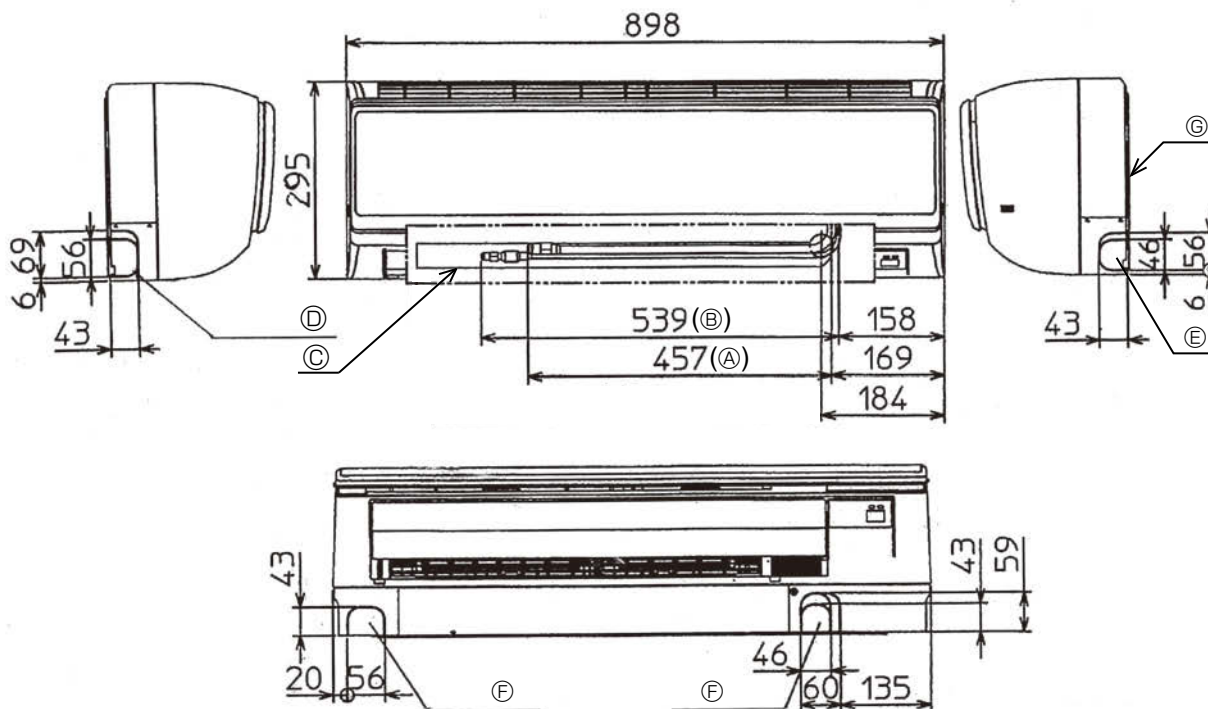

Fig. 4-2
4.3. Positioning refrigerant and drain piping (Fig. 4-2)
- (A) Gas pipe * Indicates the condition with accessories mounted.
- (B) Liquid pipe
- (C) Drain hose (Effective length: 400)
- (D) Left-side piping knockout hole
- (E) Right-side piping knockout hole
- (F) Lower piping knockout hole
- (G) Mount board